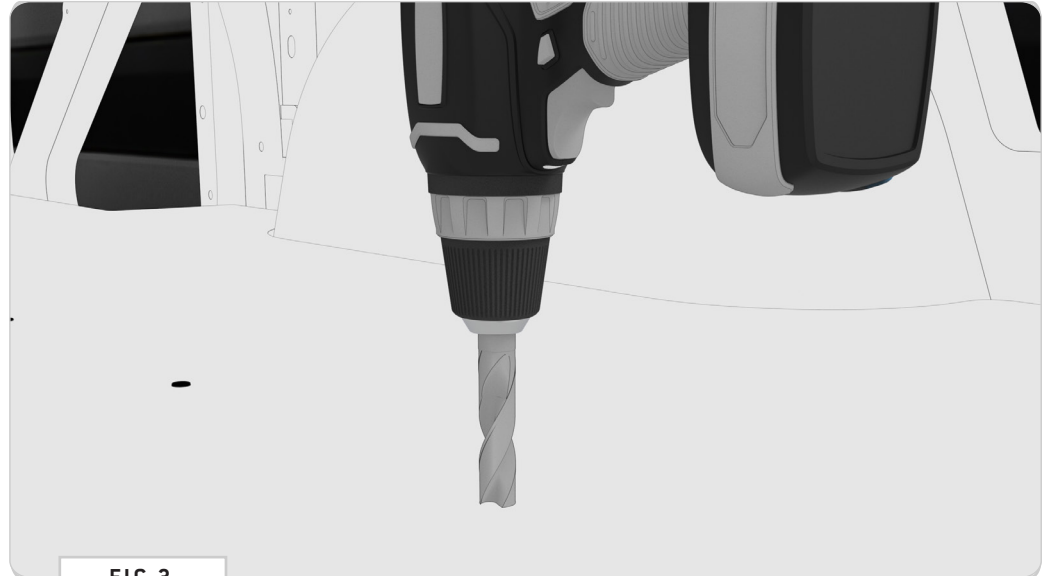
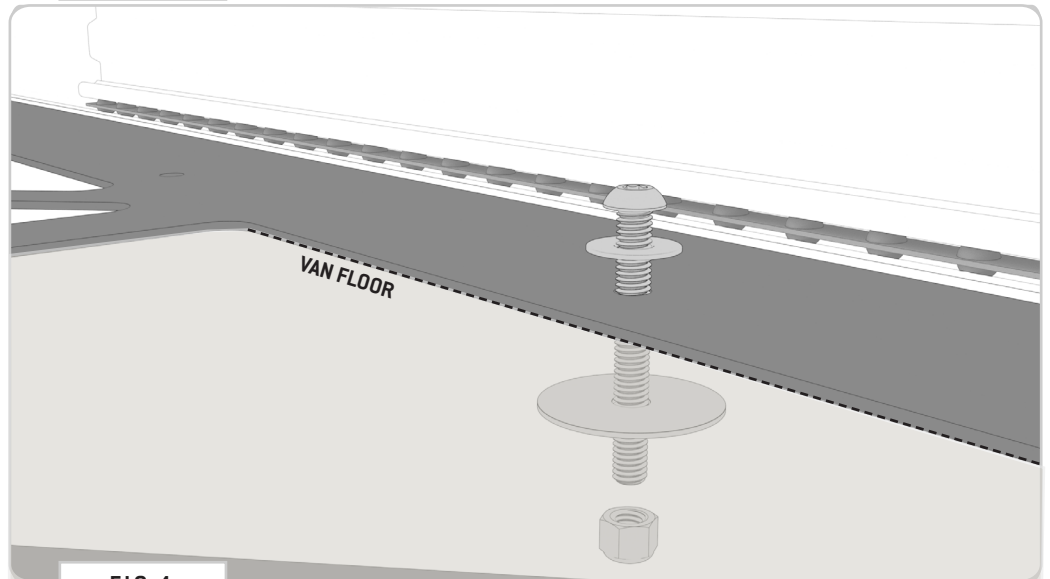

FIG 3
FIG 4
2.1 Recommended Install for Maximum Load Capacity: Drill completely through your van floor (FIG 3) and through-bolt using a 3/8" Bolt, Washer, Large Fender Washer and Nylon Locknut (FIG 4).